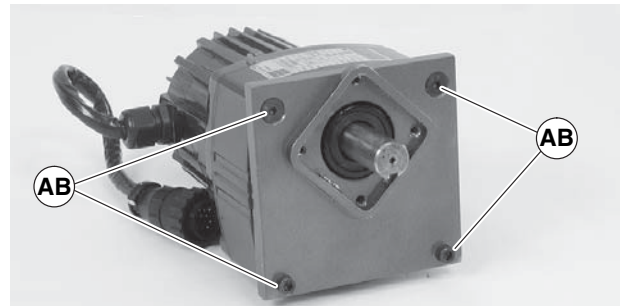

Figure 20
8. Remove four adapter plate screws (Figure 20, item AB). Remove adapter plate.
9. Install new gearmotor to adapter plate with screws (Figure 20, item AB). Tighten screws to 103 in-lb (12 N-m).